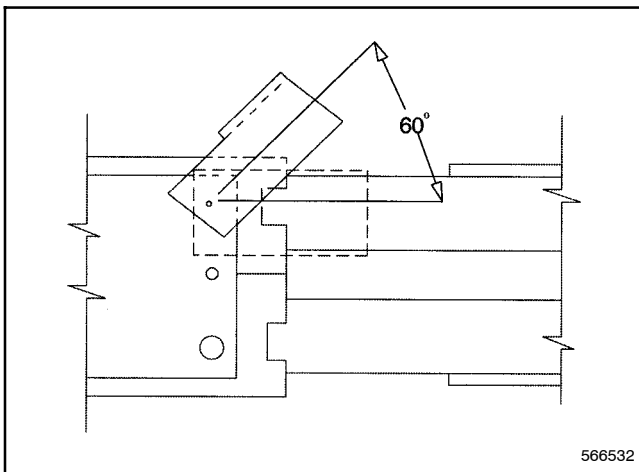

Figure 3-11 Slide Locks
4. Release the slide locks. Raise the slide locks approximately 60° to disengage. See Figure 3-11.